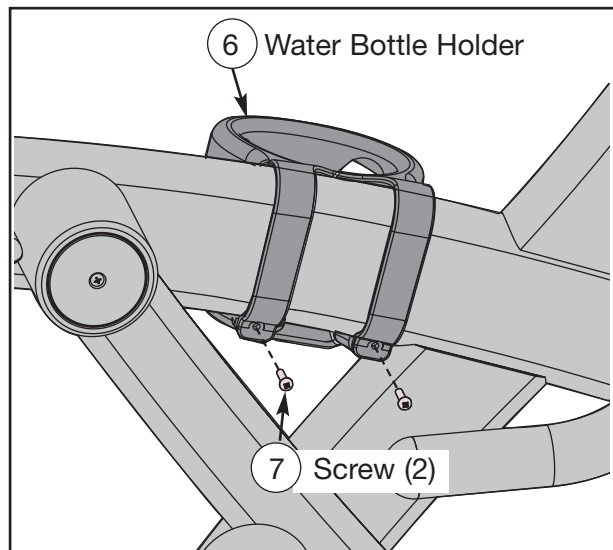

Figure 7
C. Using a Phillips head screwdriver, attach the water bottle holder to the frame with the two 5-16-18 x 0.75 screws. See Figure 7. **NOTE:** Do not overtighten.